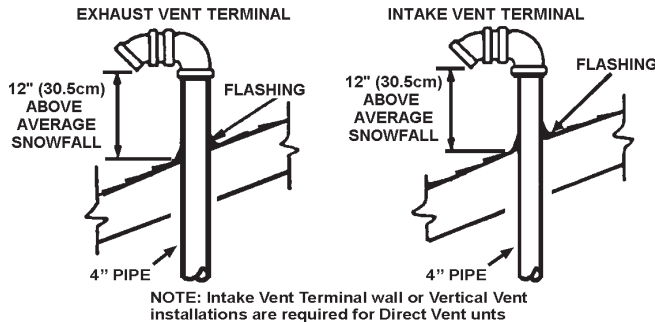

FIGURE 11.
The specifications are displayed in Figure 11.
- Terminate intake terminal and exhaust vent terminal facing down. See Figure 11.